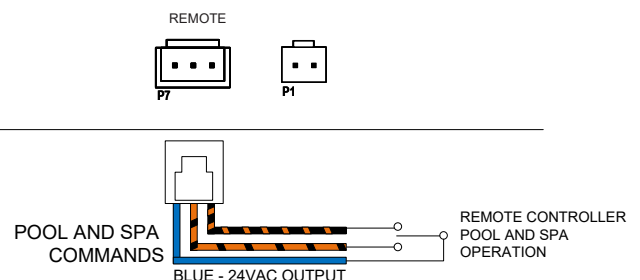

Figure 36. 3-Wire Remote Harness Installation
5. On the 3-wire remote interface harness, connect the BLUE wire to one side of the remote automation controller and connect the ORANGE/BLACK wire for "SPA" operation and the BLACK/ORANGE wire for the "POOL" operation. See Figure 36.
6. Install the 3-wire remote interface harness to the "P7" connector and turn power ON to the heater. See Figure 36.